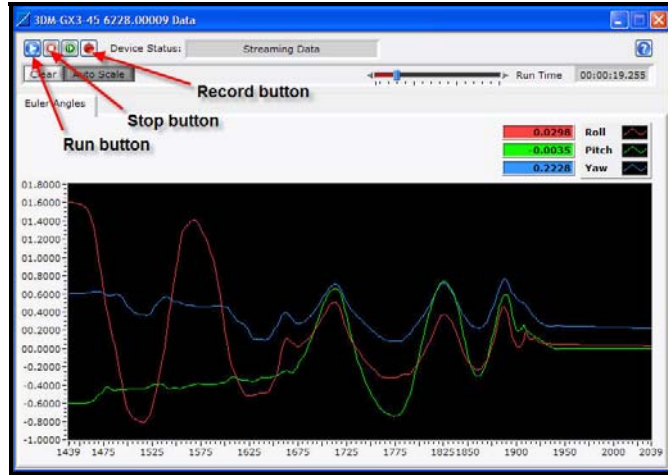

Figure 4. Data Monitor window
- The 3DM-GX3® -45 will begin sampling and display Euler Angles (in radians) at 100 Hz in a continuous graph as shown in Figure 4.